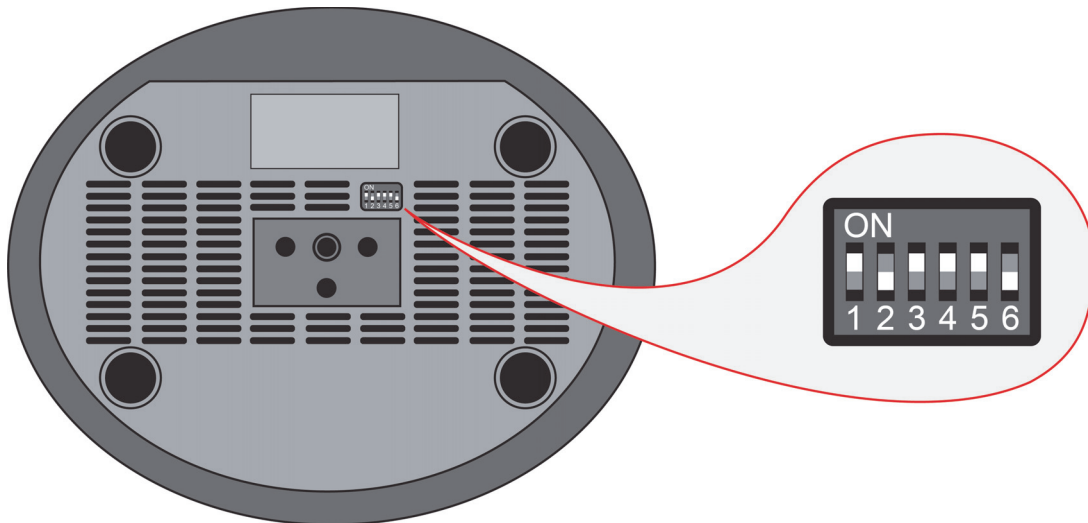

Figure 6 - DIP switches, with Switch 1 turned ON and Switch 2 turned OFF
2. Use a paper clip or other small tool to set the DIP switches on the underside of the camera as follows: **SW1** to **ON**; **SW2** to **OFF**, as shown in Figure 6.